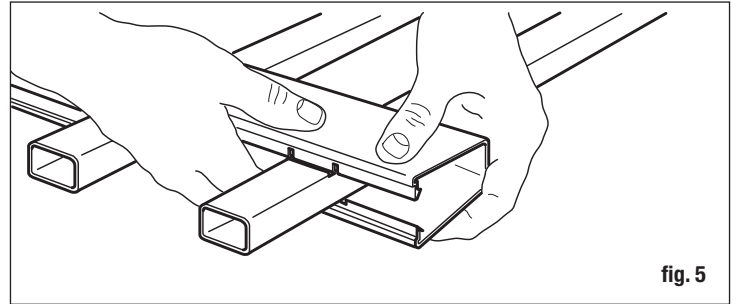

fig. 5
- Once all the pickets are in place, snap the rails into all the picket notches using your hands or gently tap with a rubber mallet (fig. 5).